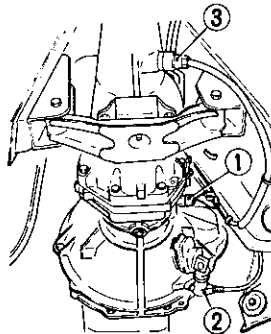

Fig. MT-3 Bottom view of car
9. Disconnect wires (1) from reverse lamp switch and neutral switch. See Figure MT-3.
10. Remove clutch operating cylinder (2) from transmission case. See Figure MT-3.
11. Disconnect speedometer cable (3) from rear extension housing. See Figure MT-3.